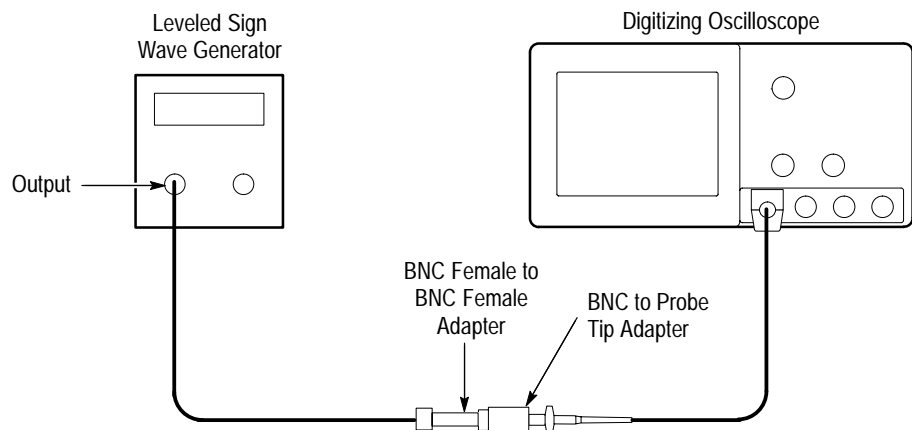

Figure 5-5: Initial Test Hookup
- Connect the output of a leveled sine wave generator to a BNC female to BNC female adapter (see Figure 5-5).